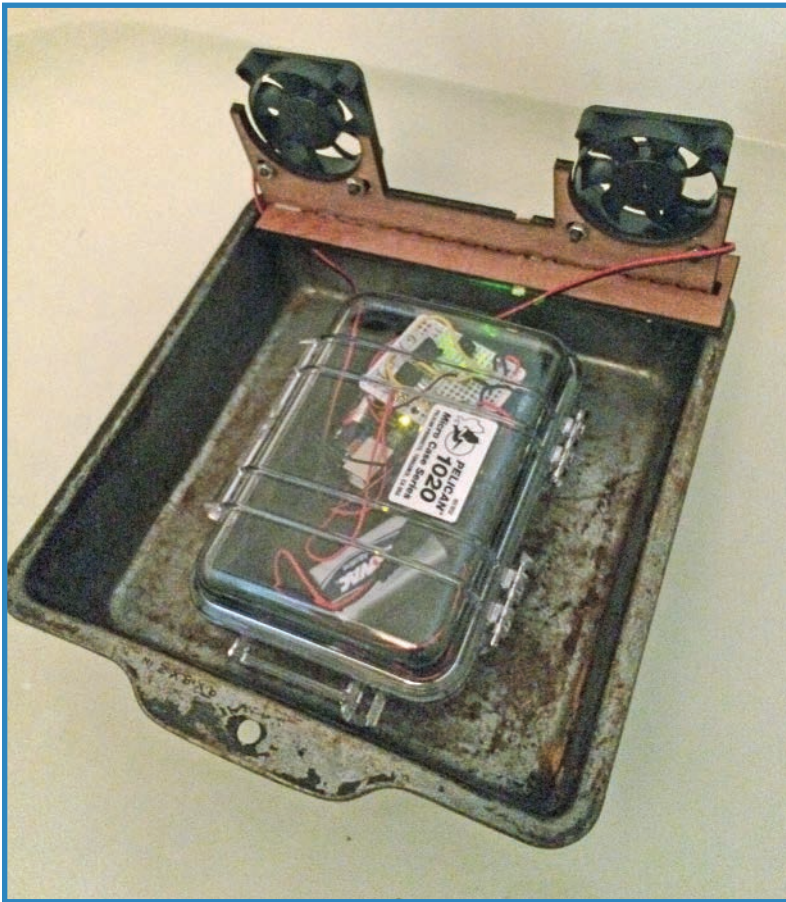

FIGURE 11.2 You can make anything into a boat, including this brownie pan.
- **Displacement of water is required**—Dead electronics and corroded motors aren't the only hazard. Let's face it, the drone has to stay afloat, either with pontoons or some sort of boat shape that displaces water. The latter works only as long as it doesn't flip over! That said, there are a lot of options. The boat in Figure 11.2 is made out of a brownie pan!